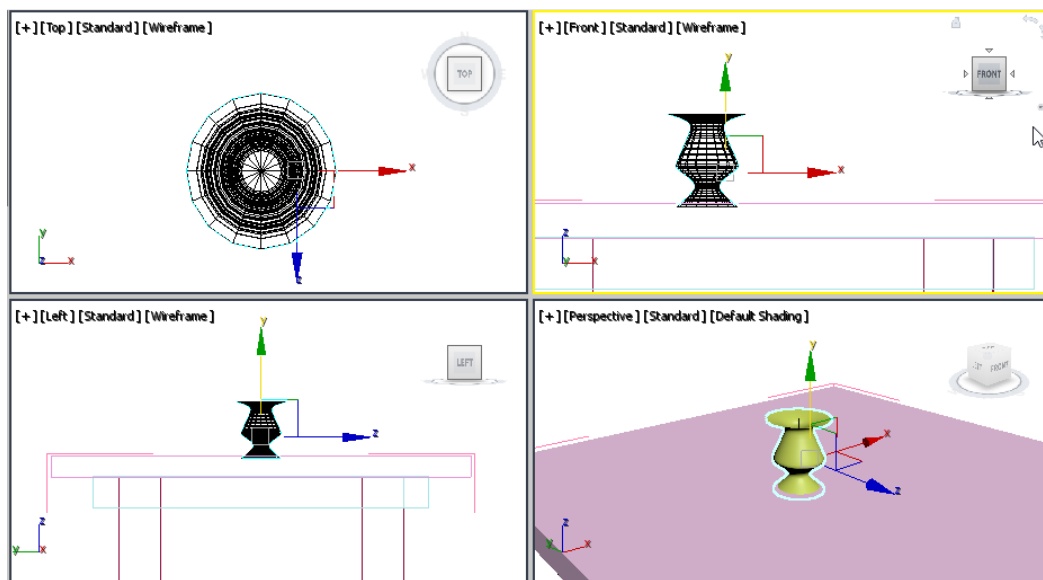

Figure 5-15 The profile rotated to form the Jug
17. Select the **Min** radio button in the **Align** area of the **Parameters** rollout; the profile forms the shape of a jug, refer to Figure 5-15. Invoke the **Zoom Extents All Selected** tool from the viewport navigation controls to zoom the object to its extent.